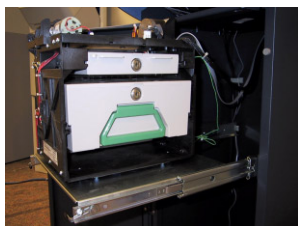

Figure 9a. Dispenser turned 90°.
8. Rotate the dispenser 90° counter-clockwise. Route the serial communications cable through the tie-wrap loop and plug the cable into jack J11. Plug the DC power connector into jack J12. (Figures 9a and 9b)